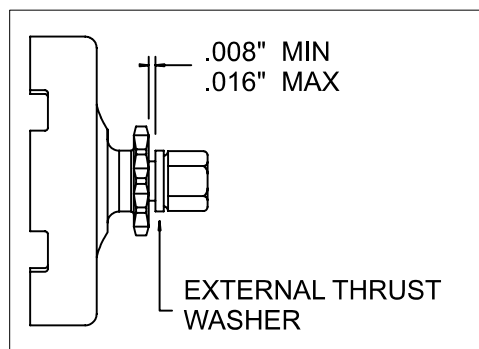

Fig. 2 End Play
3. Install Coned Safety Washer (item 7), Jam Nut (item 6) and tighten until Coned Safety Washer is flat. (450 in. lbs.)
4. Install the Internal Thrust Washer (item 5). Due to manufacturing tolerances, three sizes of the Internal Thrust Washer are provided with each Clutch. It is important to install the washer that provides proper clearance to allow the drum to spin free after the Starter Nut (item 1) is tight. (See fig. 2) Note: Chamfered side of washer faces engine.
5. Apply lithium grease to the Roller Bearing (item 3) before installing the Drum.
7. Install the External Thrust Washer (item 2). Note: Chamfered side of washer faces engine.
8. Thread on the Starter Nut (item 1) and tighten to 300 in. lbs. Optional Spanner Wrench (P/N 99-5139) is designed to prevent the crankshaft from turning while tightening the Starter Nut.
End Play (See Fig. 2)